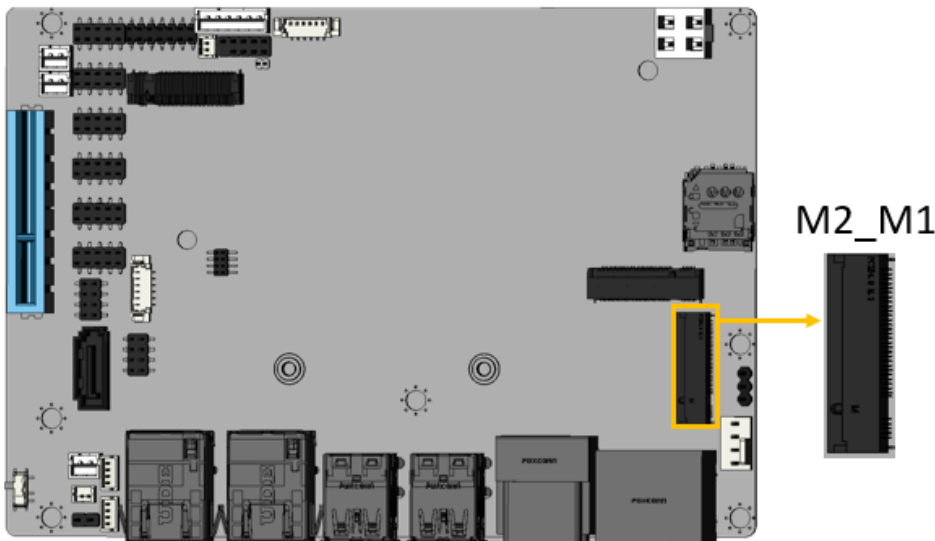

Figure 3-26: M.2 2242/2280 M-key Slot Location
- CN Location:** See Figure 3-26